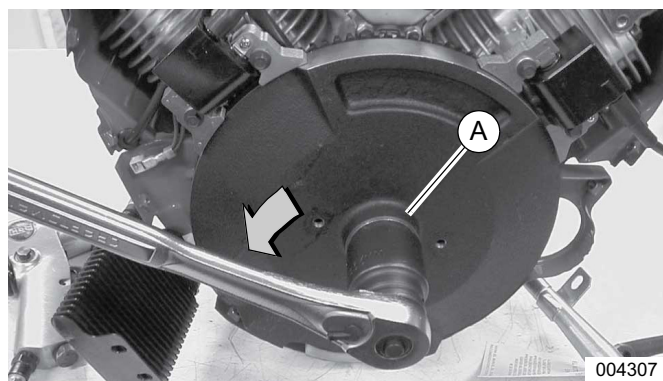

Figure 4-13. Removing Flywheel Nut
3. See Figure 4-13. Loosen flywheel nut (A) until it is flush with end of crankshaft threads